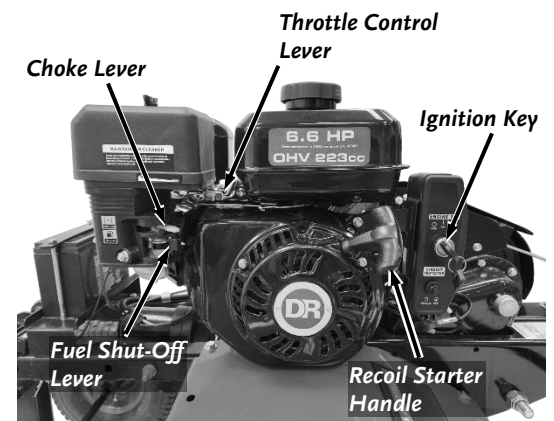

Figure 13
6. Move the Fuel Shut-Off Lever to the right "ON" position (**Figure 13**).
2. When starting a cold Engine, push the Choke Control Lever to the left so it is in the CHOKE  position and the push the Throttle Control Lever to the left so it is in the RUN  position (**Figure 13**).